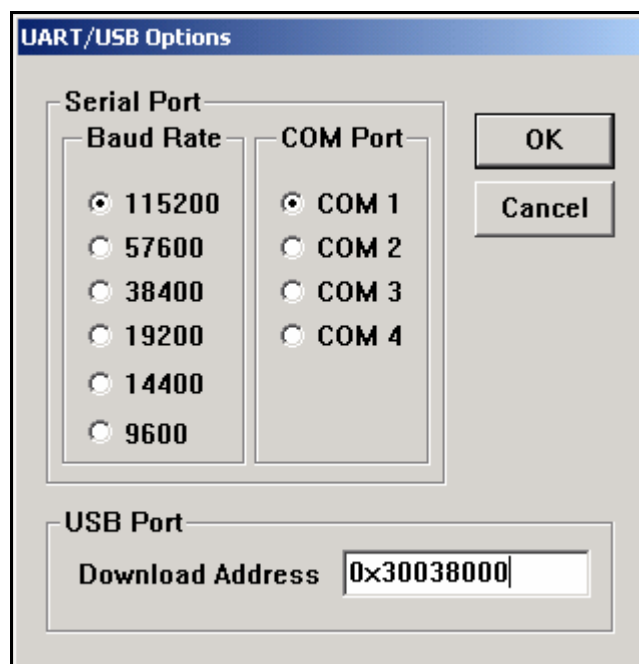

Figure 4-2 UART/USB Options
4. Now select 'Options' from the 'Configuration' menu to set the UART/USB options. The following window will appear on your screen. Select the Baud Rate and COM Port as shown in the figure 4-2, enter the download address as '0x30038000' and then click on the 'OK' button to continue.